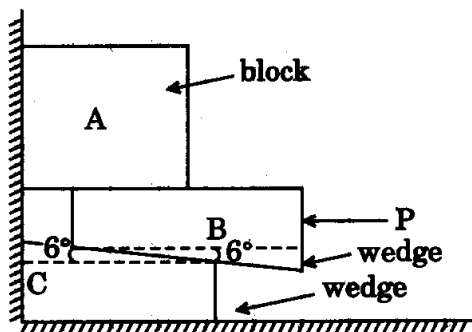

Figure 2
2. (a) A block weighing 800 N is raised up with the help of two 6° wedges B and C of negligible weights as shown in Figure 2. If the coefficient of static friction is 0.25 for all surfaces of contact, determine the smallest force 'P' to be applied to raise the block A.